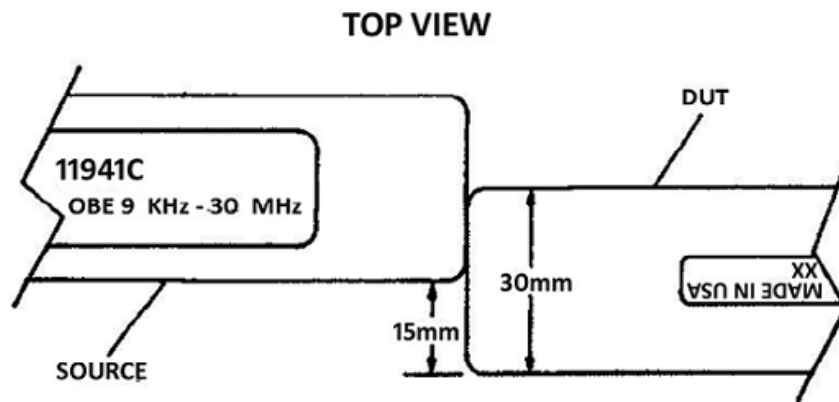

Figure 15. Detail of Probe Orientation for Insertion Loss Test
5. Realign the DUT as shown in Figure 15. The calibration label of the DUT should face upward. This position illuminates the second sense loop of the DUT with the same magnetic field intensity as the first loop.